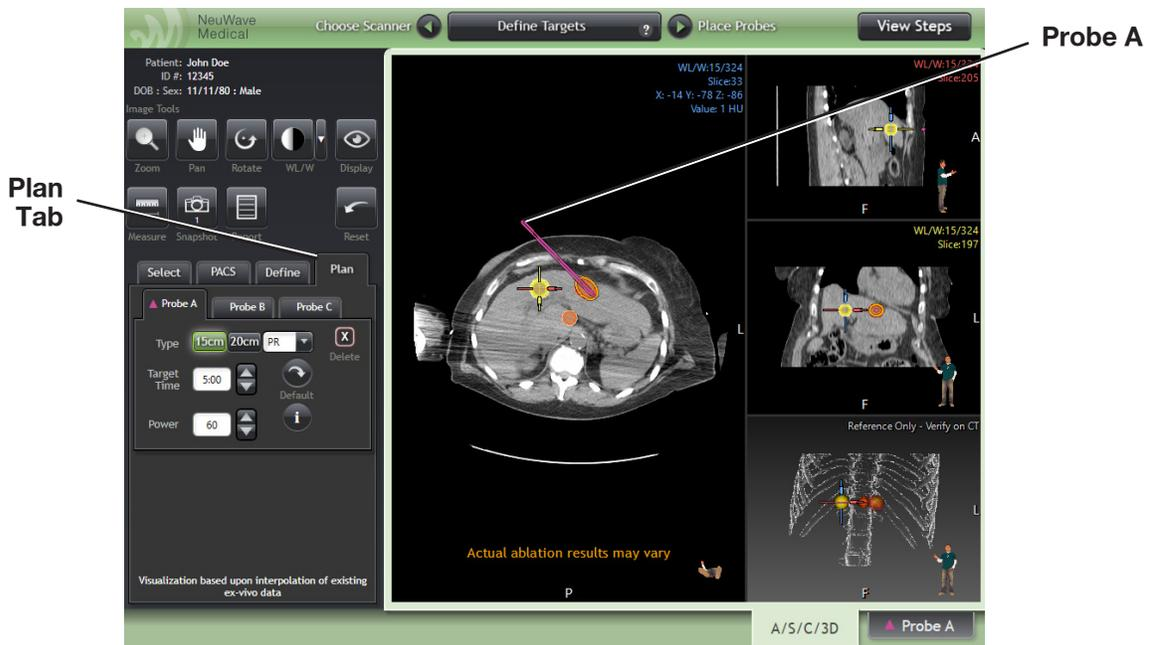
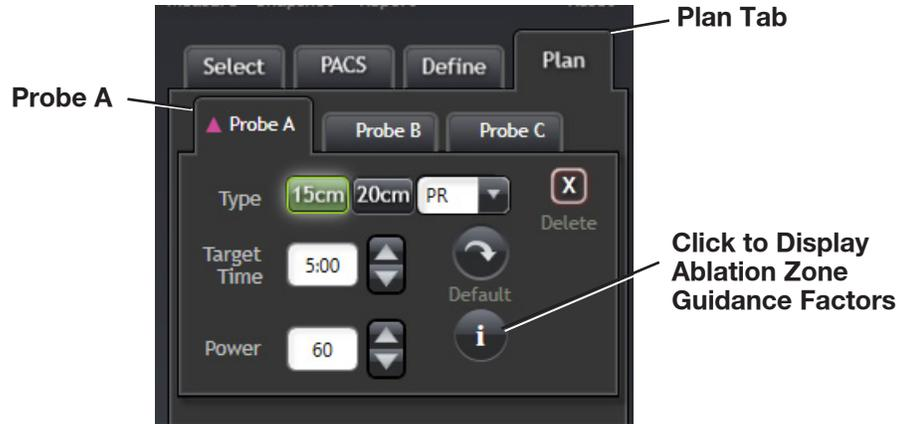

Figure 3-23: Creating an ablation probe in the Plan Tab. The probe (Probe A), probe's insertion, and trajectory are shown in the active 2D View (Axial View).
Figure 3-24: Settings for Probe A (probe type, ablation time, ablation power) are displayed under the Plan Tab.
6. After selecting the planned starting point, a number "2" is displayed next to the cursor indicating that the system is ready to select an additional point. Follow the desired probe's trajectory and select the probe's ending point. This step defines the probe's position in the 2D View. At this stage, the probe's single line becomes a double purple line extending from outside of the patient's body to the target lesion (Figure 3-23).
10. Probe Type (PR, PRXT, LK, LKXT, and LN), Target Time and Power can all be selected for each planned probe (Figure 3-24). Changes in ablation power (W) and time (min) is reflected in the displayed size of the planned ablation (orange ellipse) (Figure 3-23).
11. The  at the bottom right of the **Plan** tab will provide the Ablation Zone Guidance Factors described in the next section that may impact the size of the ablation zone (Figure 3-24).